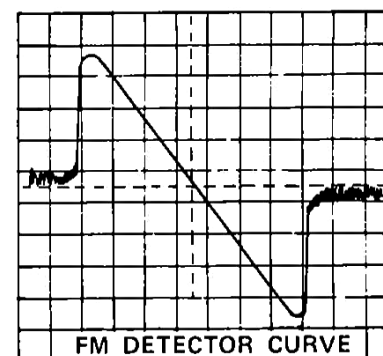

Fig. 2
- (2) Turn T202 until the waveform of the sweep generator presents the pattern as in Fig. 2. Avoid turning T203 unless absolutely necessary.